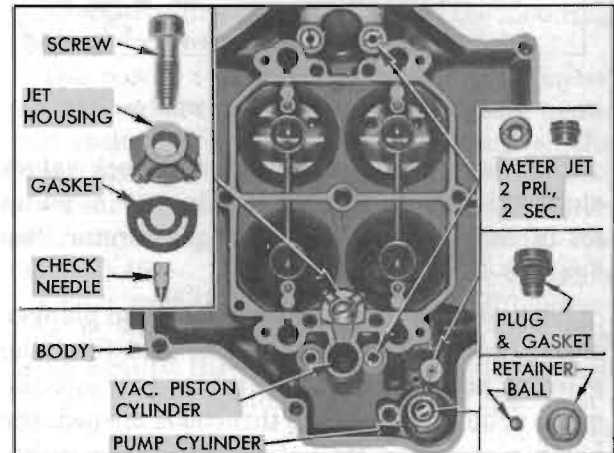

Figure 3-50—Parts in Main Body
13. Remove vacuum piston spring, pump plunger assembly and lower pump spring from cylinders in main body. See figure 3-50.
14. Remove screw, pump jet housing, gasket, and pump check needle from main body. See figure 3-50.
15. Remove the four metering jets and the pump relief plug and gasket from bottom of bowls in main body. See figure 3-50.
16. Use a thin screw driver or a stiff wire having a short hook on one end to remove the pump intake check ball retainer. See figure 3-50.
and check ball in small end of the sleeve of Loader Unit T 109-122U, (shown in figure 3-37) holding sleeve vertical. Invert main body and insert parts and tool into pump cylinder, then turn body over and tap sleeve to seat the retainer in recess at bottom of pump cylinder. See figure 3-50.
15. Install pump relief plug and gasket and the four metering jets in main body. See figure 3-50. The main metering jets in *primary* side are marked 120-165 and have a larger hole than the metering rod jets in *secondary* side, which are marked 120-174.
16. Place pump check needle, *tapered end downward*, in passage in main body, then install gasket, pump jet housing, and attaching screw. See figure 3-50.